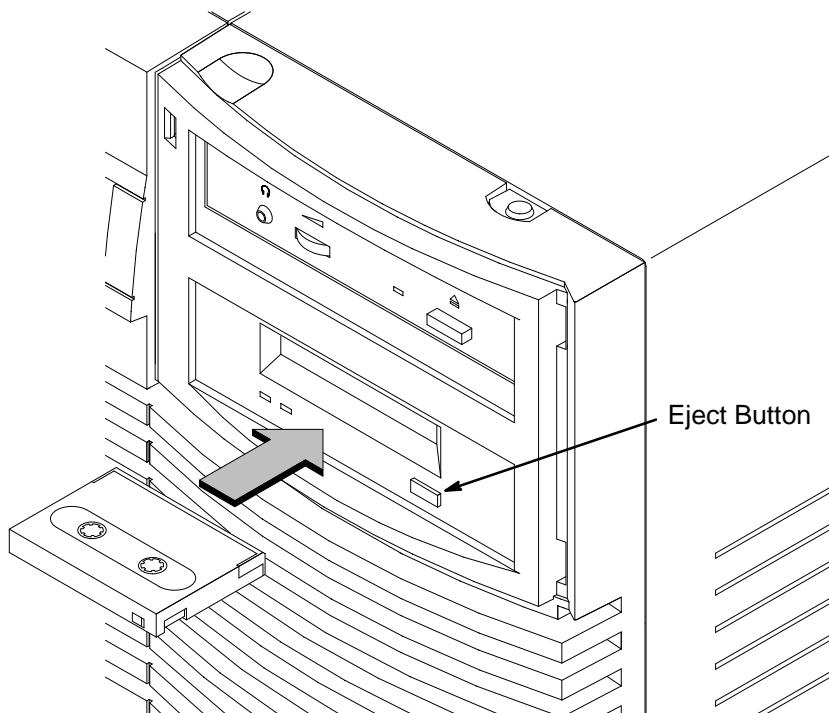

Figure 2–3. Loading a Data Cassette
1. Insert the data cassette into the drive, as shown in Figure 2–3.
3. To remove the data cassette, press and release the eject button on the front of the drive, as shown in Figure 2–3. The Tape LED on the drive flashes on and off. Ten to twenty seconds later, the data cassette slides partway out of the drive. Remove the cassette from the drive.